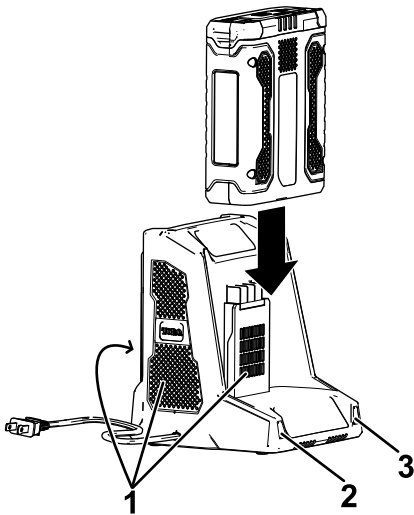

Figure 9
- Slide the battery pack into the charger until it is fully seated (Figure 9).